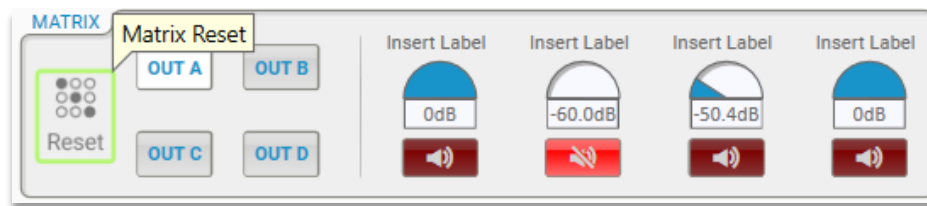

Figure 8 – Screenshot of the Matrix Section of a (4) Channel Amp
- The Matrix section is made up of the following controls (Figure 8):
- *Output Select Buttons* – Pushing one of these buttons will display the mix of matrix input channels and mute orientation, with respect to the matrix output channel which is selected. The choices will depend on the number of channels that your amplifier has; 2, 4 or 8 channels. Upon start-up **OUT A** output select button is engaged. These buttons work according to interlock logic. Only (1) button can be active at a time.